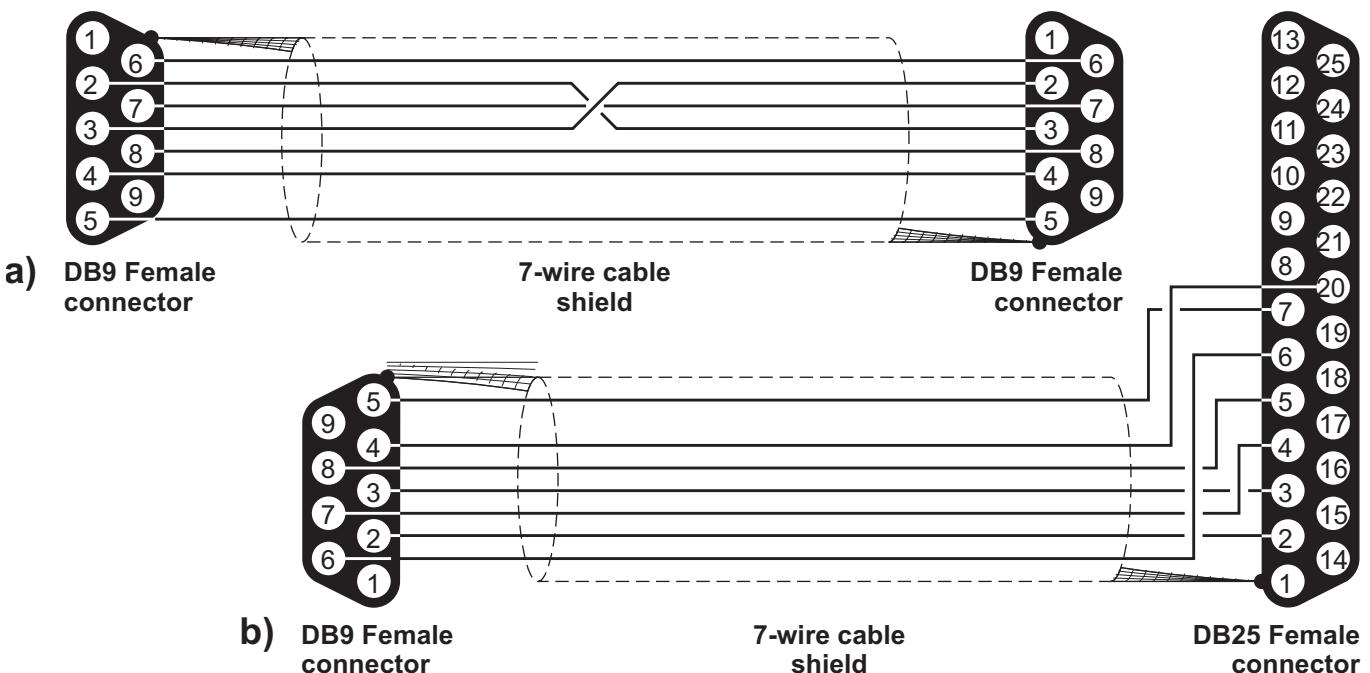

Figure 27 Wiring diagram for the serial link between the Control panel and PC
- using a **CVSER/9F9F** link (accessory item), or a cable similar to the one in Figure 27 a; connect the Control Panel to the PC;
- if the PC serial port has 25 pins, use an **ADSER/9M25F** adapter (accessory item), or a cable similar to the one in Figure 27 b.